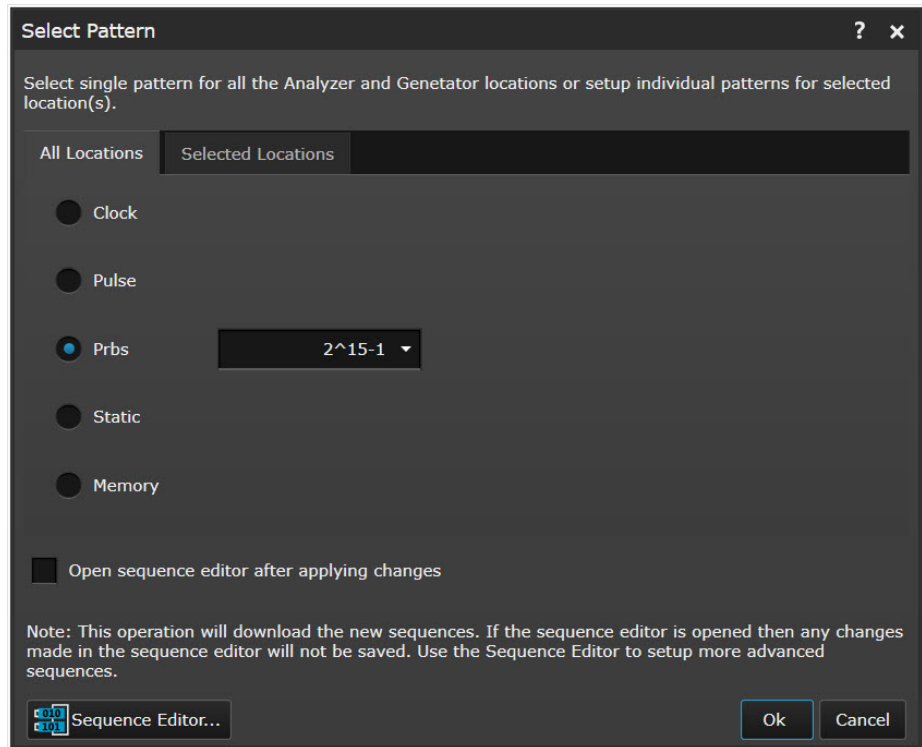

Figure 21 Select Sequence Pattern Dialog
- 4 On the menu bar, click on **Patterns > Select Pattern....** A **Select Sequence Pattern** dialog will appear as shown in Figure 21 on page -50.